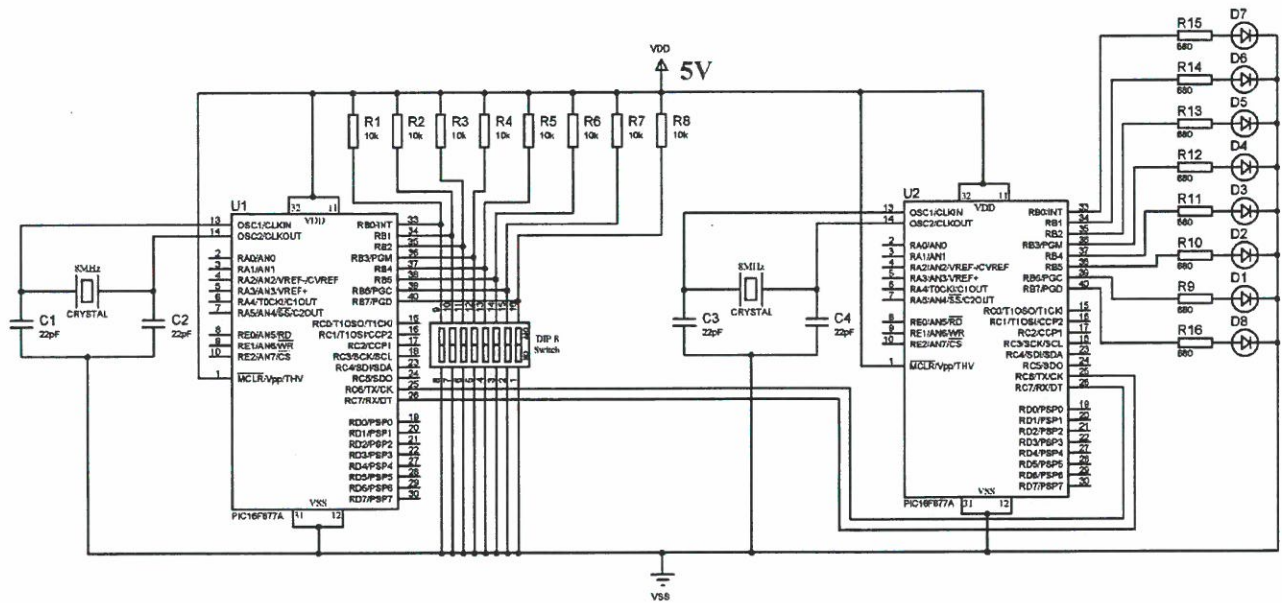

Figure 4(b)
- (b) Figure 4(b) shows the PIC16F877A to PIC16F877A communication via Universal Synchronous Receiver Transmitter (UART). Describe the UART communication between these two PIC microcontrollers. State on the typical baud rate used for this communication. Assume the communication protocol used is 8N1. Figure 4(b) shows communication between two PIC16F877A microcontrollers.